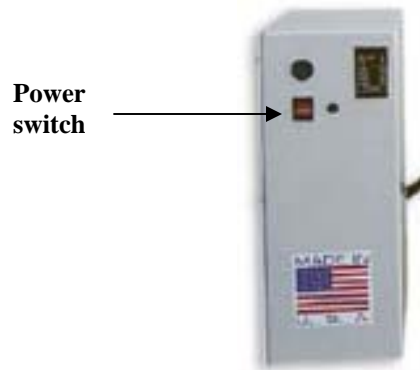

Figure 2: The controller for the TECHNO CNC Router.
1. Turn on the machine by flipping the red button located on the front of the controller. When the machine is powered up, five green LED's will be lit up. The power button is shown in Figure 2.